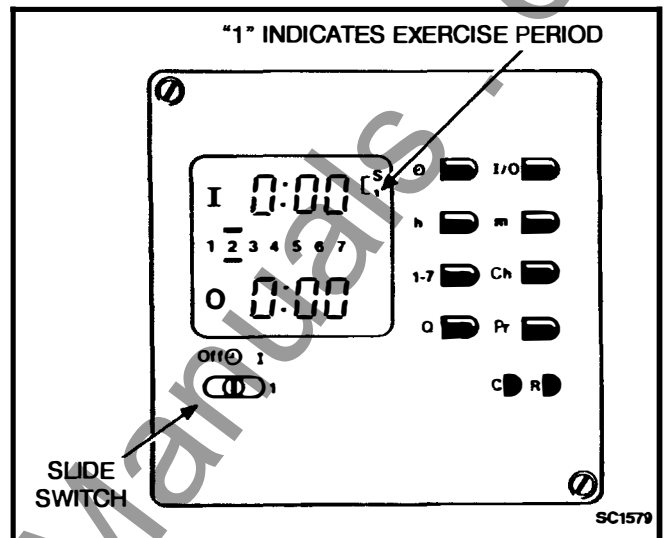

FIGURE 4-1. EXERCISER CLOCK
4. Check the exerciser clock to see if it is in an exercise period. When the exerciser clock is in an exercise period, a "1" appears in the upper right-hand corner of the display window (Figure 4-1). You can view the display by looking through the transparent clock cover. Check that the red slide switch is in the center position.
3. Check the exerciser to see if it is in an exercise period. When the exerciser clock is in an exercise period, a "1" appears in the upper right-hand corner of the display window (Figure 4-1). You can view the display by looking through the transparent clock cover. Check that the red slide switch is in the center position.